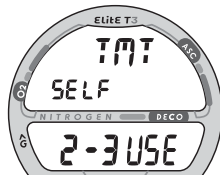

Fig. 88 - GAS SWITCH LEAD-IN
- Depressing the M button for 2 seconds while viewing a NORM DIVE MAIN screen will access the TMT 2-3 USE (Lead-in) screen displaying the Set Point SELF (Fig. 88). If 'bud' is displayed, indicating that the Elite T3 is set for Buddy Pressure Check, a Gas Switch cannot be made.